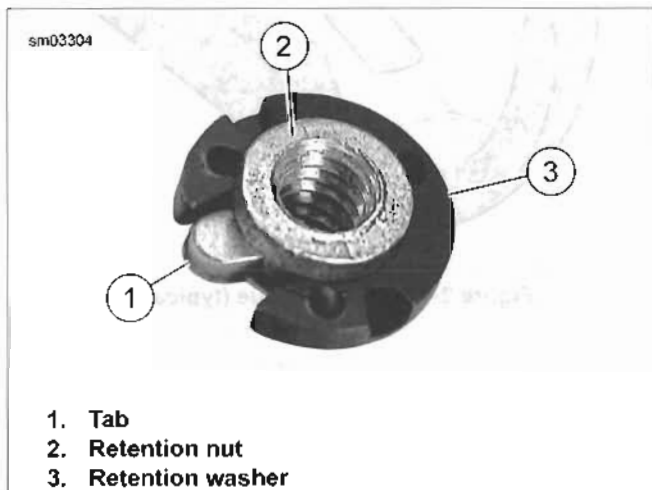

Figure 2-132. Seat Retention Nut
3. See Figure 2-132. With tab (1) on retention nut (2) seated in notch of fender hole, pull up on cable strap to hold nut snug against underside of rear fender.
4. From the side opposite the tab, slide on the retention washer (3) to lock the position of the retention nut.